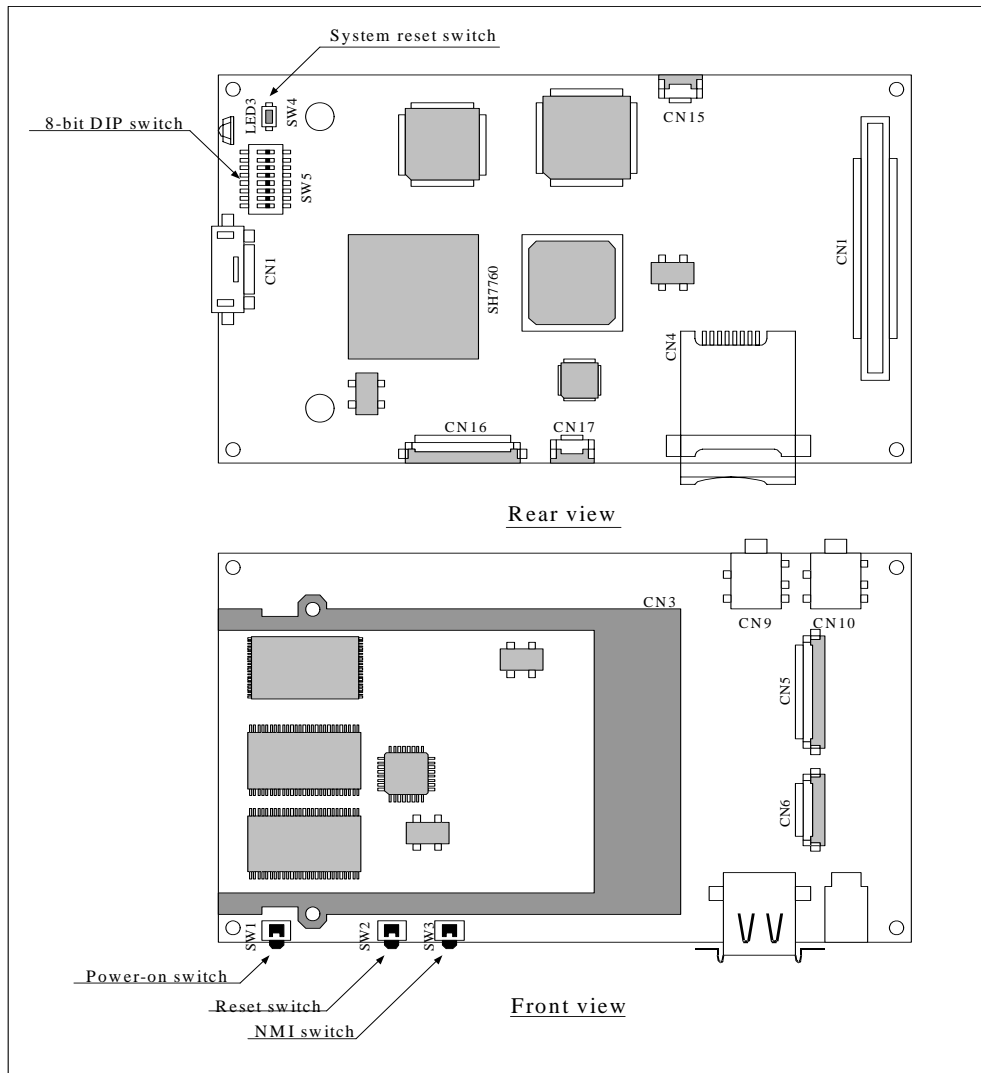

Figure 3.1 CPU Board Switches (SW1 to SW5)
Figure 3.1 shows the location of the switches (SW1 to SW5) on the CPU board. In addition, this section gives a brief description of each switch in (1) to (5).